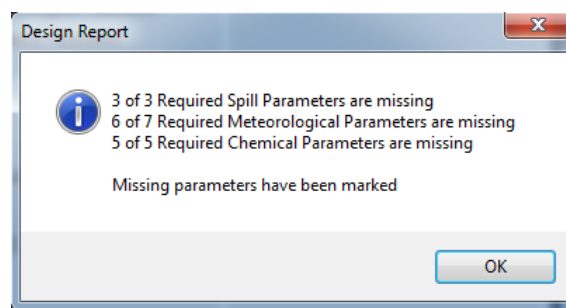

Figure 5-5: Error Messages – input missing
3. Module specific validation (see Figure 5-5: Error Messages – input missing)